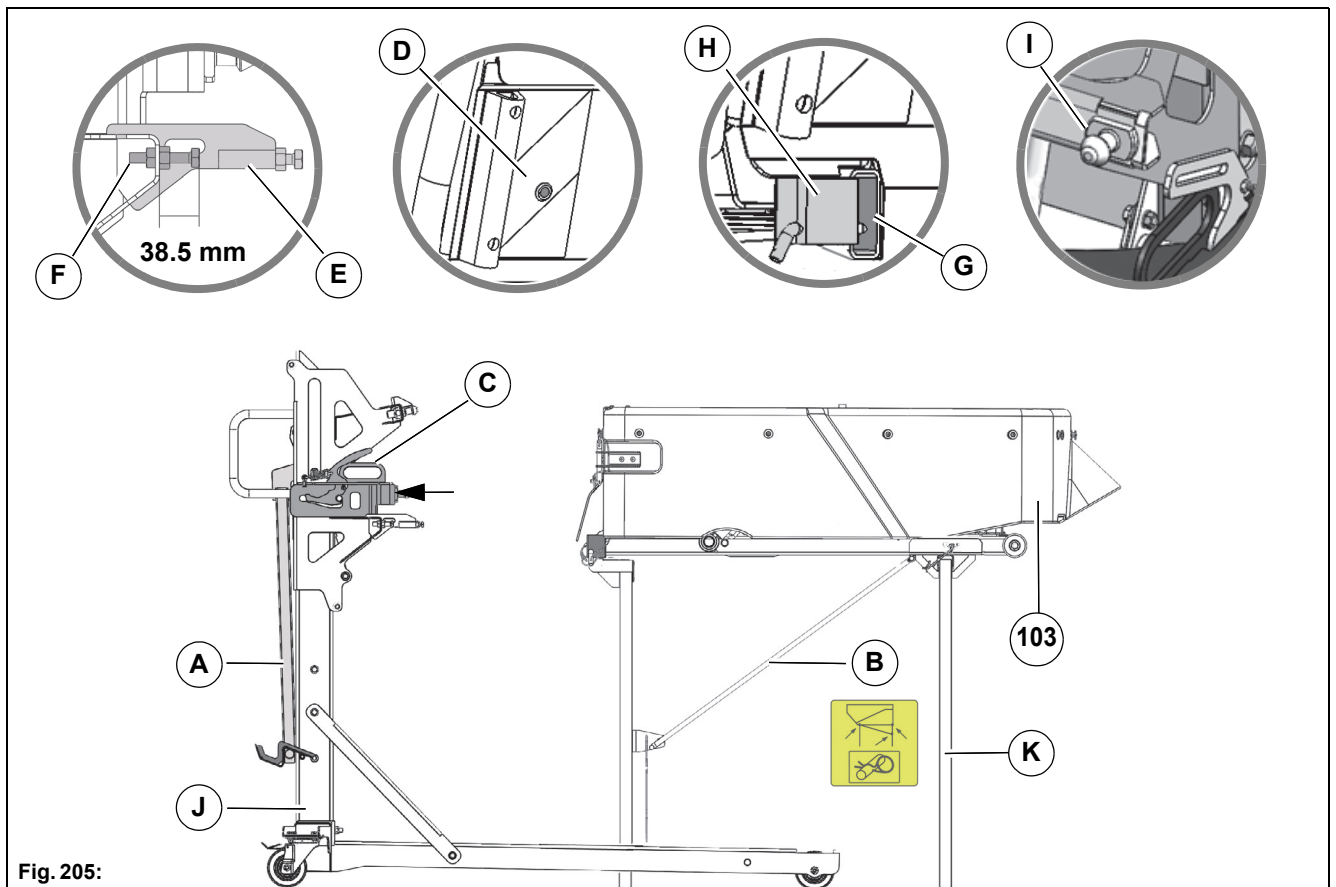

Fig. 205:
Risk of injury due to tilting over! Make sure that the cross strut **Fig. 205-B** has been inserted when transporting the loading platform on the supports **Fig. 205-K**. Secure the supports with bolts and splints.
5. Push the trolley **Fig. 205-J** (optional) with the lower positioning aid **Fig. 205-E** into the spars **Fig. 205-G** and against the fixed bearings **Fig. 205-H** of the loading platform **Fig. 205-103**. The screw **Fig. 205-F** must be adjusted to 38.5 mm!
6. Carefully lower the lever **Fig. 205-A** of the trolley and make sure that the locking pins **Fig. 205-I** sit in the holders of the loading platform. Lock the lever.
7. Remove the supports **Fig. 205-K** (optional). To do so, pull out the split pins and the bolts.